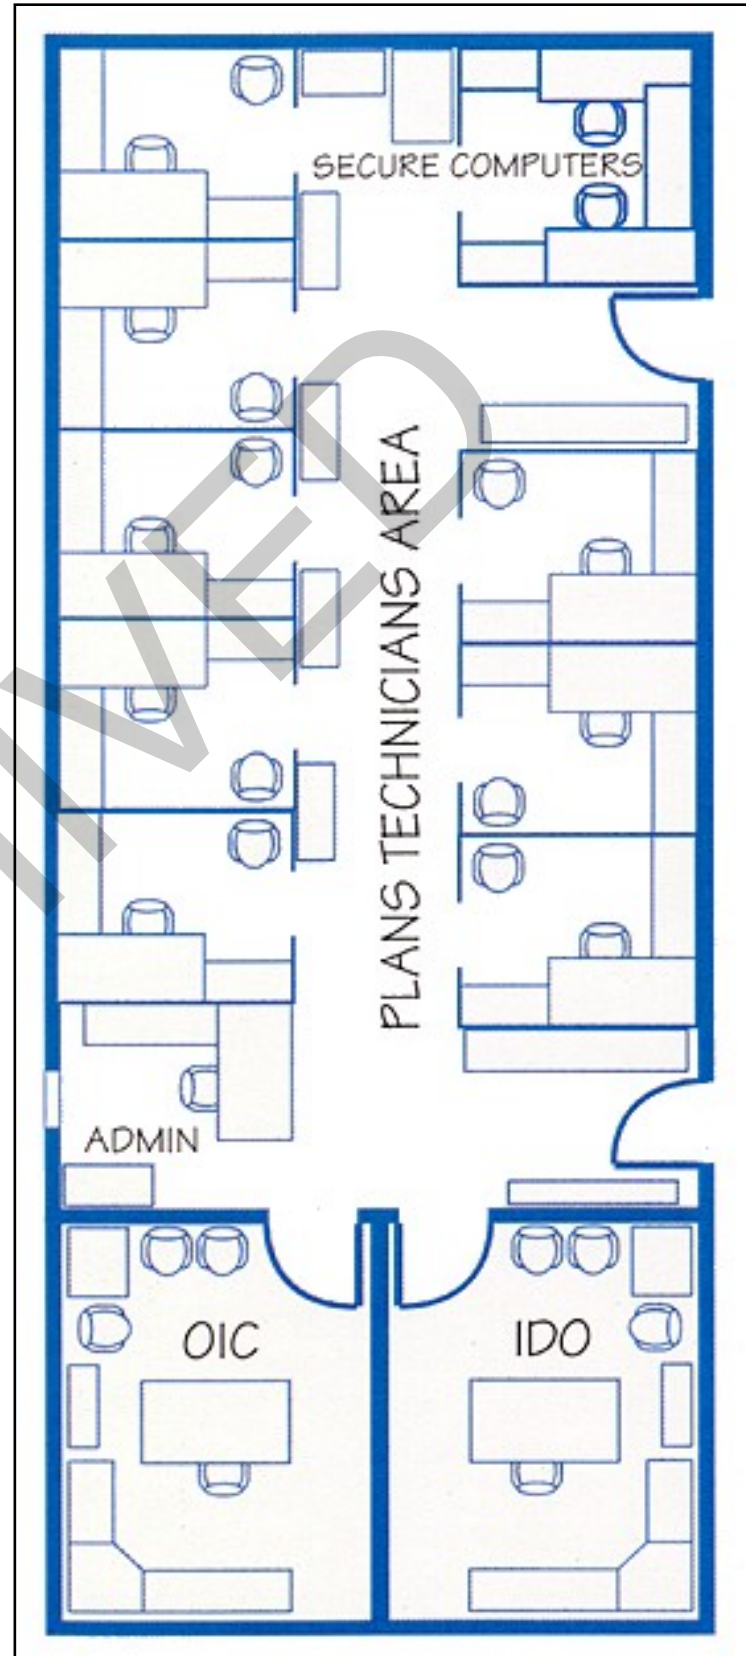

Figure 3-B: Logistics Plans and Programs Plan
a. OIC's Office - Used for day-to-day operations, counseling sessions, and small meetings (See Figure 3-B).
b. Installation Deployment Officer's (IDO's) Office - For day-to-day management of the wing's deployment program, counseling sessions, and small meetings (See Figure 3-B).
Planning, and Execution System (COMPES) and Global Decision Support System (GDSS) access (See Figure 3-B).